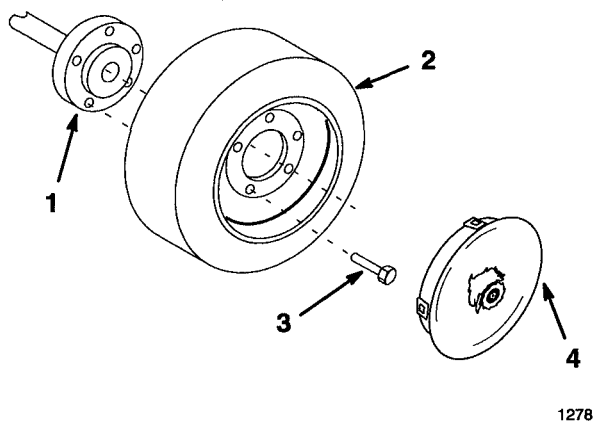

Figure 2
3. Install the wheels onto the hubs with the valve stems facing inward (Fig. 2).
5. If the tractor is equipped with logo hubcaps, install the logo hubcaps onto the rear wheels (Fig. 2).